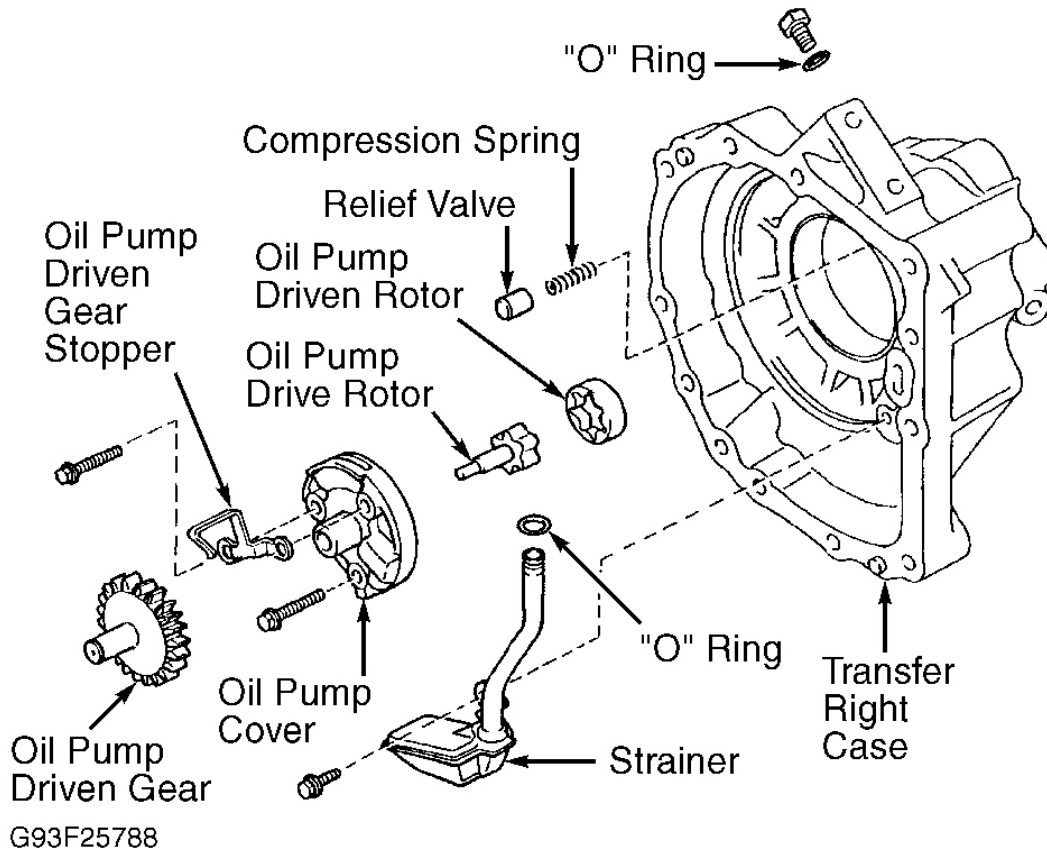

Fig. 49: Exploded View Of Transfer Right Case
2. Remove oil pump driven gear stopper. Remove oil pump cover, drive rotor and driven rotor. Remove relief valve and spring. On A-241H, remove level gauge guide plate. See **Fig. 49**.